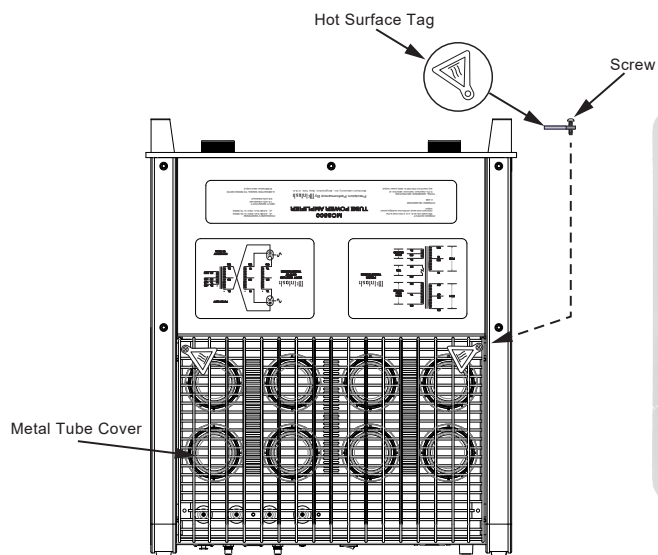

Figure 5
7. Place the Hot Surface Tags in the top corners of the Tube Cover. Secure the Cover to the MC3500 Chassis using the four screws. Refer to figure 5.